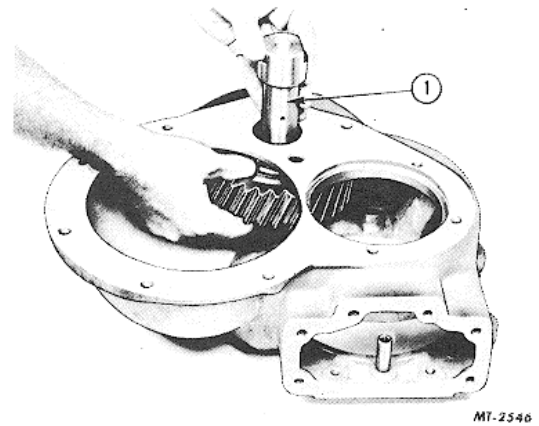

Fig. 13. Removing Idler Shaft and Gear
- 5. Remove idler shaft gear and bearings from case (Fig. 13 and 14). Separate bearings, bearing races and bearing spacer from idler gear. Note that models RA-351 and 355 use two bearing spacers.